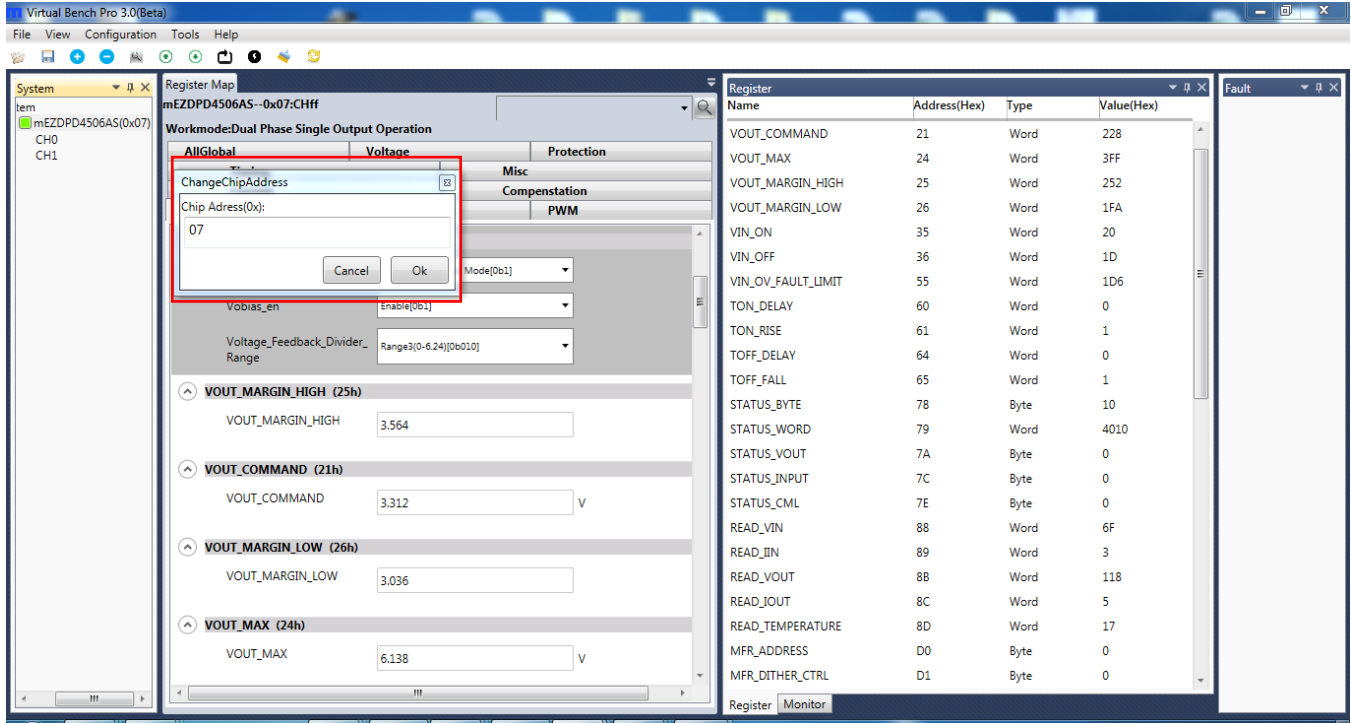

Figure 14: Change the Chip Address and the Indicator Turns Green to Show Successful Connection
- Right-click the “mEZDPD4506AS” on the left panel. Click “Change Chip Address” and enter the value “slave(0x)” (see Figure 14). The module will be added manually.